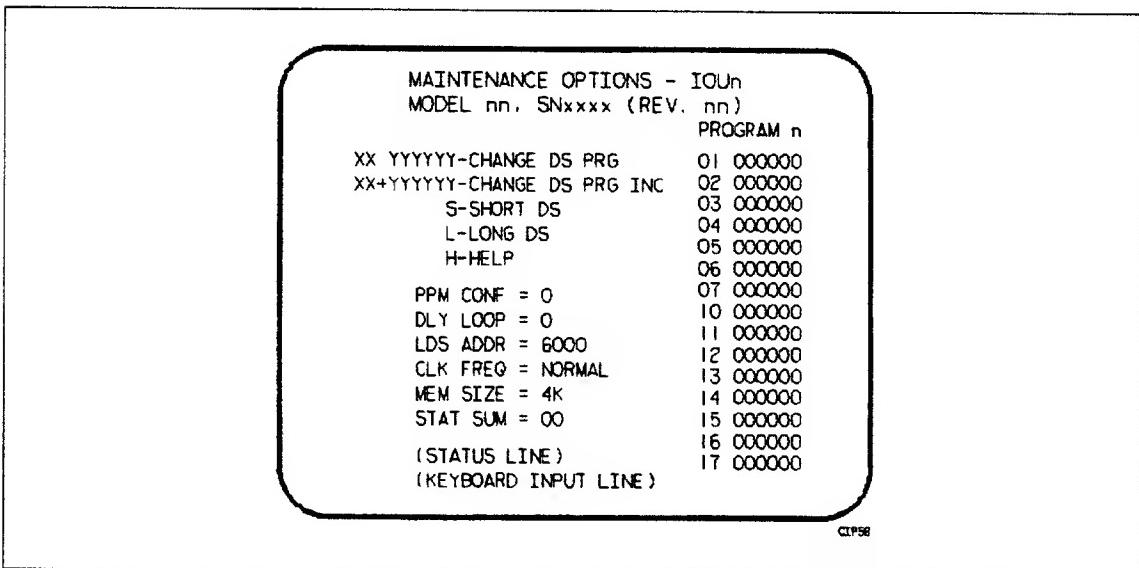

Figure 3-2. Maintenance Options Display (Single IOU Systems)
- a. Type M to bring up the MAINTENANCE OPTIONS display shown in figure 3-2.